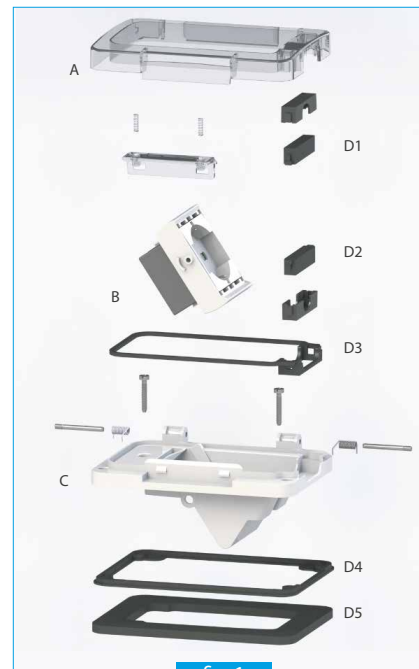

fig. 1
WIDE is the only case in the world equipped with a socket outlet that guarantees IP55 (if installed in flush mounting boxes) and IP66 degree (if installed with its wall mounting box) with closed cover, inserted plug and without any needs for adapters. WIDE is made up of a chassis (fig. 1-C), a tilting support (fig. 1-B), suitable for either plugs with axial cables and plugs with 90° cables, a cover (fig. 1-A) and various sealing gaskets (fig. 1-D1,D2,D3,D4,D5).
- The protection degree also depends on the proper maintenance of the silicon holding cable gaskets. (fig. 1-D1,D2).
- Before installing WIDE with the embedding box, remove the gasket (Fig. 1-D5), which has to be used only with flush mounting boxes.
- Remove the gasket (Fig. 1-D5) from the chassis, which has to be used only with flush mounting boxes.